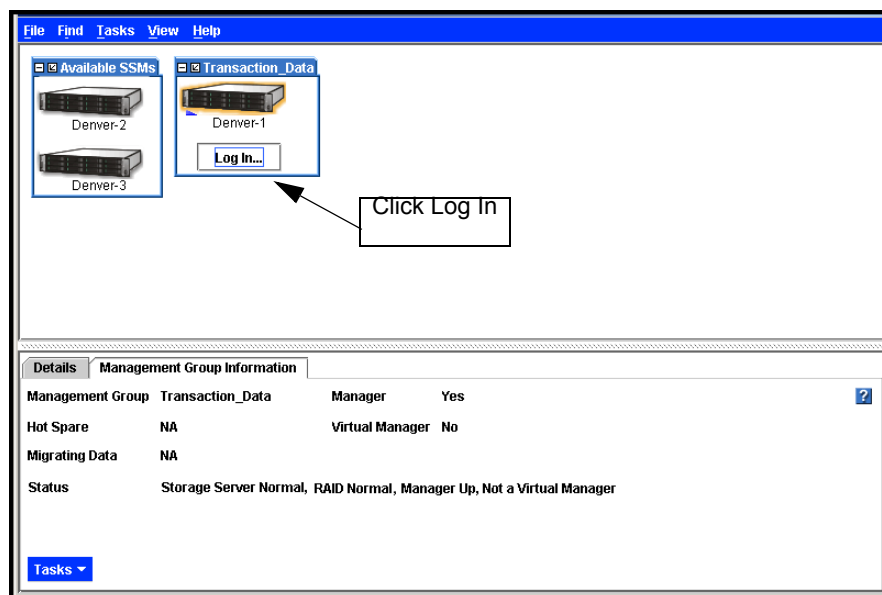

Figure 138. Logging in to a Management Group
1. Click Log In on the management group in the Network View, shown in Figure 138.